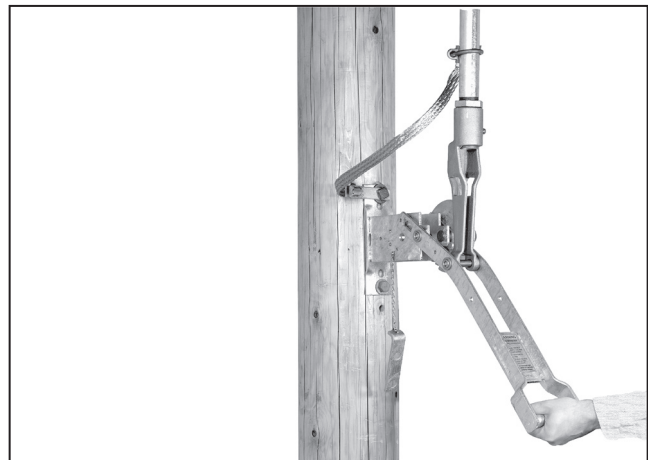

Figure 35. Rapidly swing the operating handle.
- (b) Rapidly swing the handle to the fully **Open** or fully **Closed** position. See Figure 35.